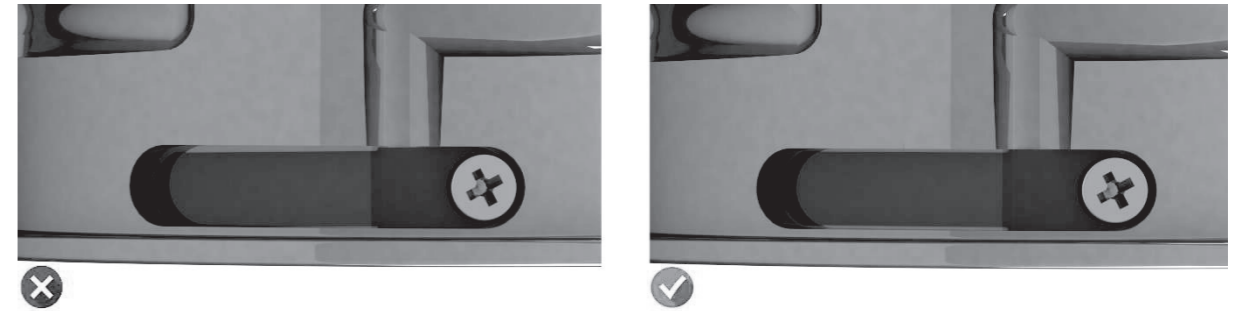

Fig 4 False and True Assemblies of Leaf
- I. Insert the leaf springs [f] into the ball grooves on the cam-lock body [b] and tighten the screws [e1] using a small phillips screwdriver. Check the movement of the leaf springs with the screwdriver bit and take care the leaf springs do not contact the side walls of the ball groove (see Fig. 4).
- I. Insert the leaf springs [f] into the ball grooves on the cam-lock body [b] and tighten the screws [e1] using a small phillips screwdriver. Check the movement of the leaf springs with the screwdriver bit and take care the leaf springs do not contact the side walls of the ball grooves (see Fig. 4).